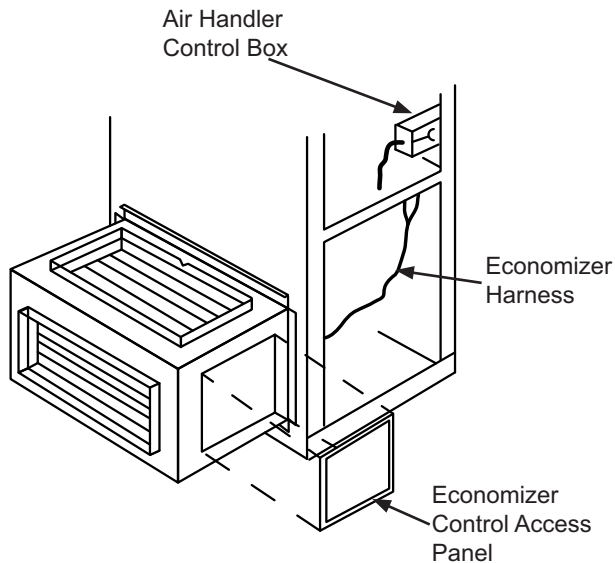

Fig. 9 — Economizer Wire Routing
Follow the steps below to connect the economizer to the air handler control box (see Fig. 9):
1. Remove the economizer control access panel and locate the actuator wiring harness. See Fig. 9.